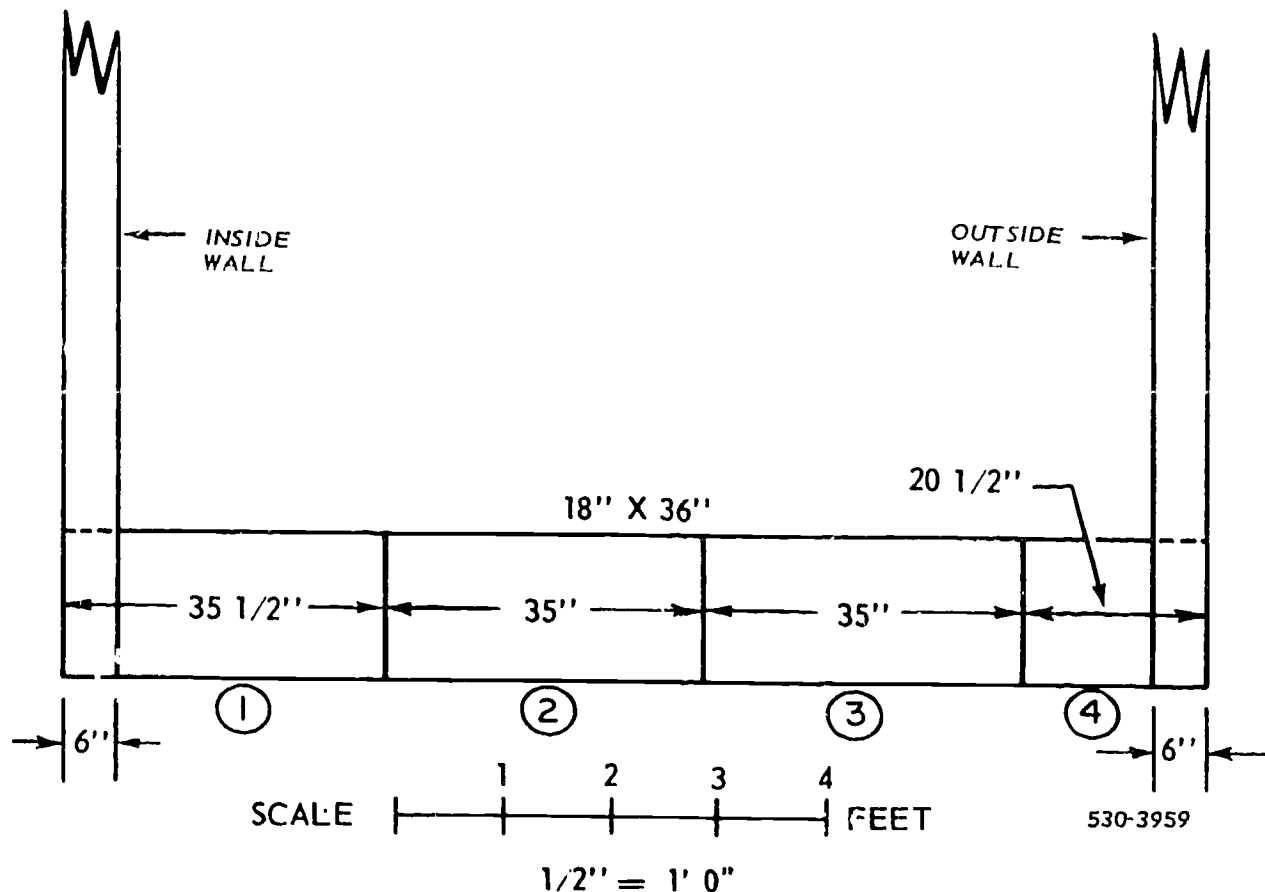

Figure 4-11. Breakdown of return air and outside air plenum.
**Return Air Duct.** In foldout 2, you can see an elevation view of the return air duct (return air and outside air plenum) to the heating and air-conditioning system we have been discussing. Earlier in the chapter, we broke down the return air duct and found the dimensions to be 18 inches high, 36 inches wide, and 9 feet 6 inches long. In figure 4-11 we have further broken the duct down into joints. Notice that joint 4 is located to contain the multiblade damper. Determining the size and number of sheets for this duct is similar to determining the material for the other rectangular ducts except that these dimensions are large enough to take nearly a whole  $3' \times 10'$  sheet for each joint. The stretchout including the Pittsburgh seam allowance is  $109\frac{1}{4}$  inches. The ends of joints 1 and 4, shown in figure 4-11, are plain and do not have flanges because the duct openings through the walls will be boxed in (framed) by the carpenters. The hall register and the outside wall louver will be fastened to the wood framing. The joints are connected with S-and-drive slips between each joint.